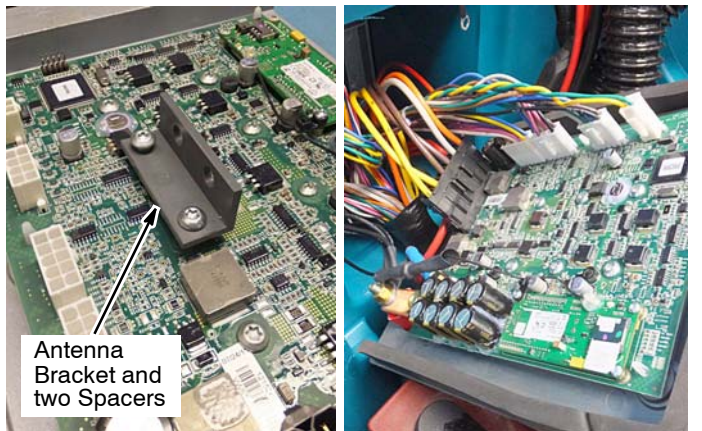

Fig. 9
3. Mount the new control board to the heat-sink panel using existing hardware. Install the antenna bracket with two spacers as shown (Figure 9). Reconnect the five wire harness connectors to the new control board.